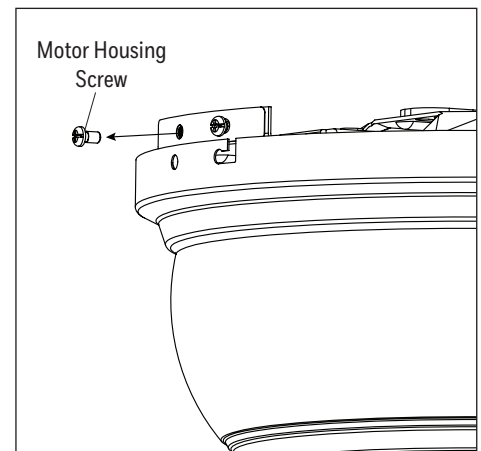

Figure 2.6
6. Temporarily lift the motor housing to the mounting bracket to determine which two motor housing screws in the sides of the upper mounting bracket align with the slotted holes in the top edge of the motor housing. Partially loosen the two motor housing mounting screws that align with the slotted holes. Remove the other two motor housing screws from the opposite sides of the mounting bracket (Figure 2.6).